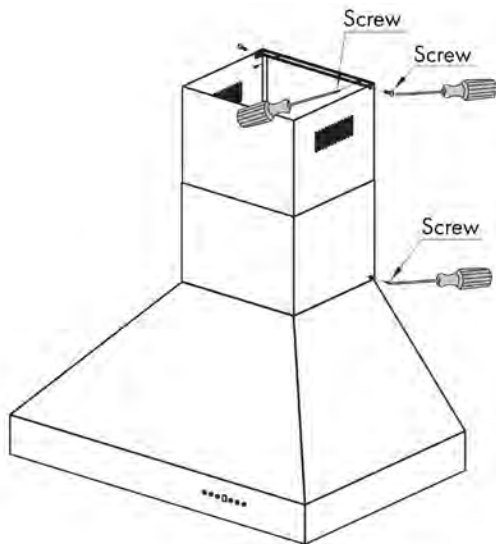

Figure 7
- Place the two-part telescoping chimney on top the hood. Slide the inside section up until the vertical vent slots are visible, then attach the top portion to the mounting bracket with 2 screws (Item No. 14). Secure the lower portion to the hood with 2 screws (Item No. 14). **NOTE:** Screw (Item No. 12) noted below was installed earlier in step 4. *Figure 7*